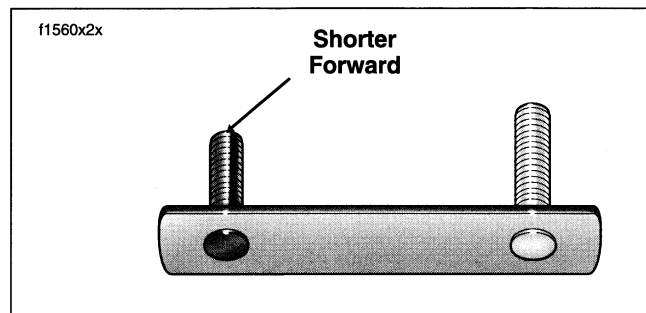

Figure 82. Stud plate
8. See Figure 82. Turning handlebar to access stud plate, push on ends of studs to release stud plate from inboard side of left fairing support. Repeat step to remove stud plate from right fairing support.
6. See Figure 82. Standing on the left side of the vehicle, turn handlebar to access inboard side of left fairing support. With shorter stud in the forward position, slide studs on stud plate through holes in fairing support and then through holes in both inner and outer fairing.